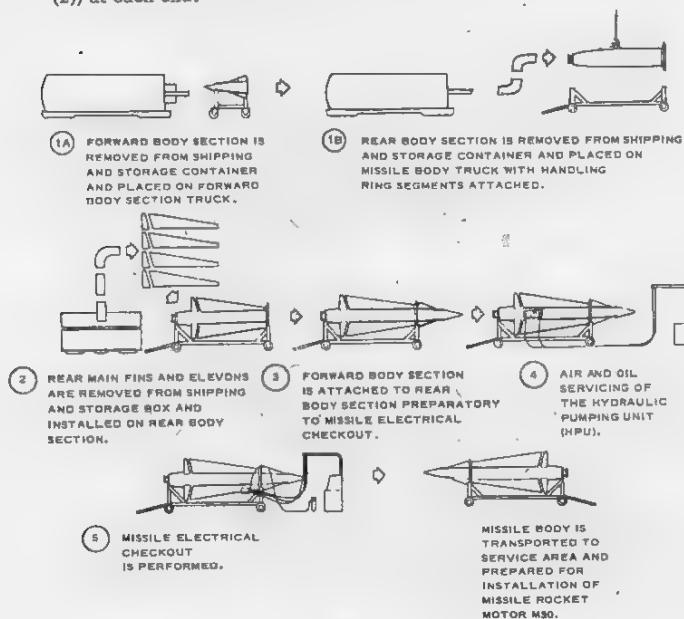
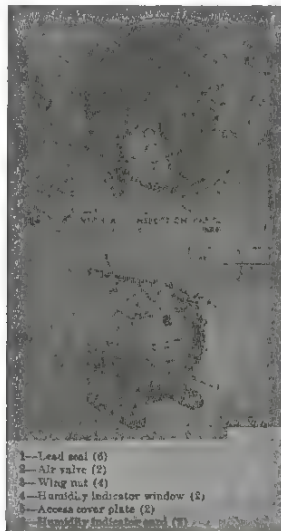

Figure 3-13. Assembly area operations flow chart.
Figure 3-14. Body section container.
a. General. Operations performed in the assembly area are illustrated in figure 3-13. At the conclusion of these operations, the forward and rear body sections are transported to the service area.
- (1) Check the body section container for external damage and inspect the lead seals.
- (2) Swing the access cover plates (fig 3-14 (5)) at each end downward and check the humidity indicator for a blue indication. Excessive moisture will cause the indicator card to turn pink indicating possible deterioration of components.
- (3) Depressurize the container by removing the core from the air valve (fig 3-14 (2)) at each end.
- (1) Check the main fin for external damage and inspect the lead seals.
- (2) Open the container, inspect for damage, and check the contents against the packing list.
- (3) Remove and inspect the thermal battery pack, then replace it.
- (4) Position the rear body section so that two fins can be installed horizontally and install two rear main fins.
- (5) Rotate the rear body section 90° and install the remaining two fins.
- (6) Install the elevons.
- (7) Bolt the testing fixture to the front end of the rear body section, then bolt the forward body section to the testing fixture (fig 3-13(3)). Connect the transponder control group wiring harness in the rear body section to the fail-safe wiring harness and connect the fail-safe wiring harness to the fail-safe control and sequential timer on the forward body section (fig 3-15(5) and (6)).